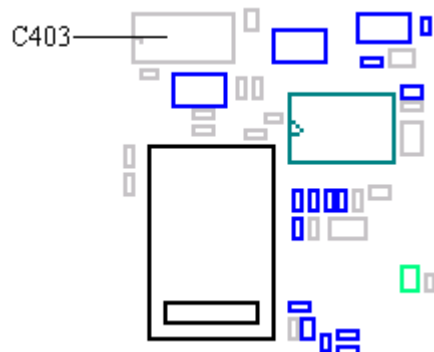
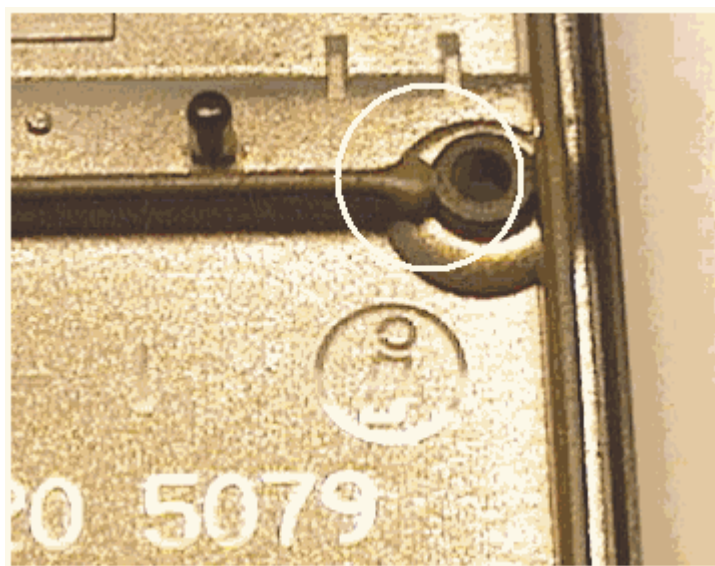

Fig. 3.3
Fig. 3.4
- If the phone consumes current immediately it usually means that C403 (class A, fig. 3.3) is faulty but first you should make sure that the frame gasket isn't in contact with the positive battery connector pad at the circuit board (fig. 3.4).